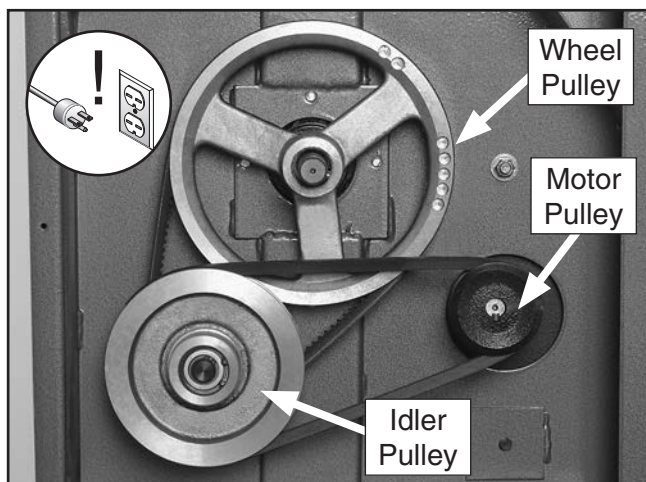

Figure 45. Pulleys and V-belts.
5. Take off the pulley cover plate by removing the six Phillips head screws. You now have access to the V-belts for inspection or service (see **Figure 45**).